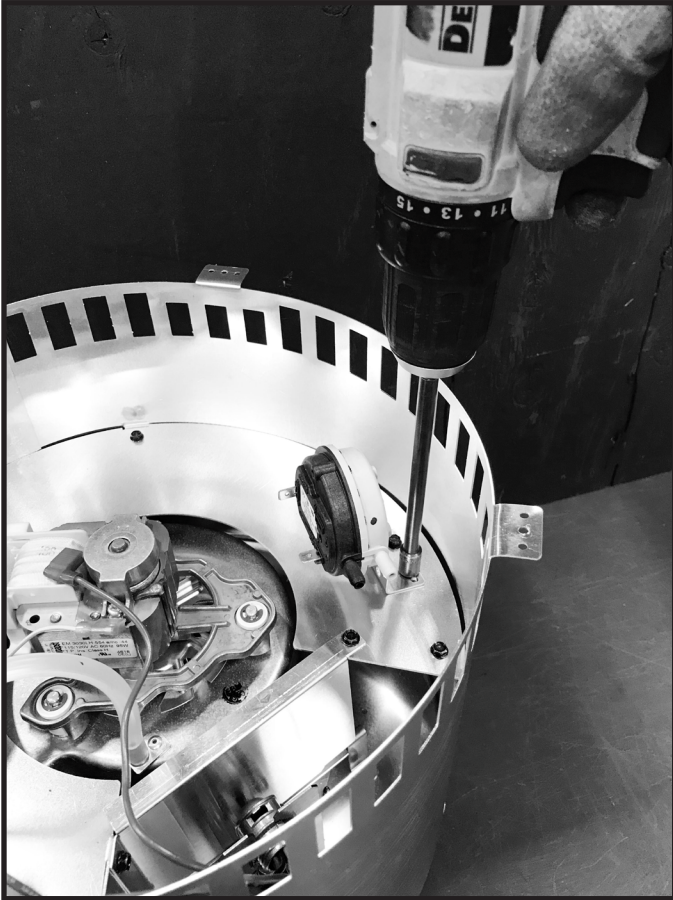

Figure 5.4 Remove Screw
4. Remove the screws holding the pressure switch bracket to the heat shield. See Figure 5.4.